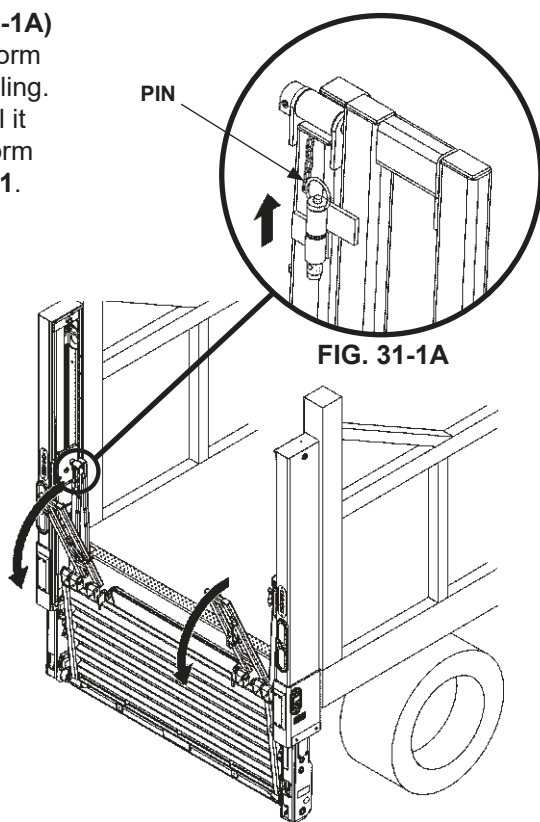

FIG. 31-1
2. Remove pin (**FIG. 31-1A**) on each side of platform to unlock platform railing. Lower the railing until it hangs over the platform as shown in **FIG. 31-1**.